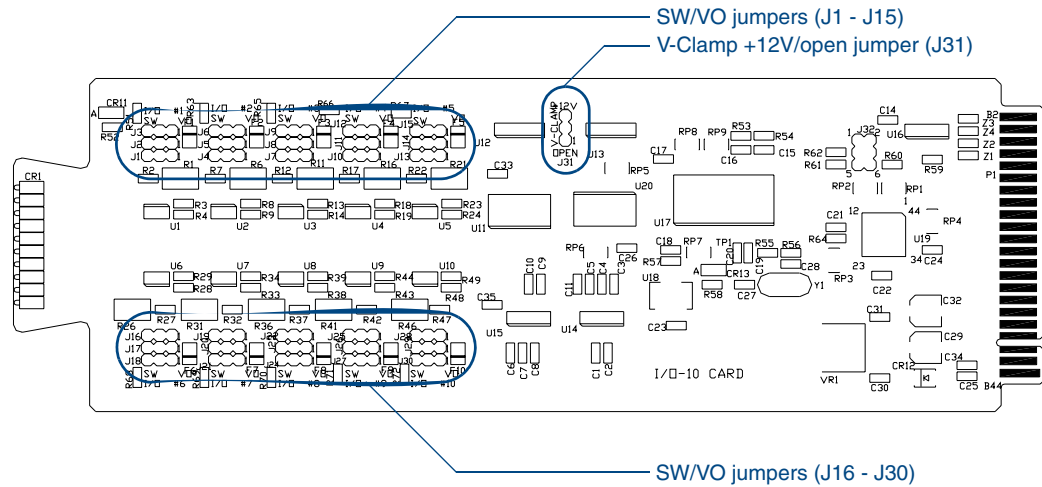

FIG. 4 NXC-I/O10 Control card
The NXC-I/O10 Input/Output Control Card (FG2021) provides 10 Input/Output channels and LED feedback. It acts as a logic-level input and responds to switch closures or voltage level (high/ low) changes. The Switch (SW) and Voltage (VO) modes are set with on-board jumpers. FIG. 4 shows the I/O10 card.